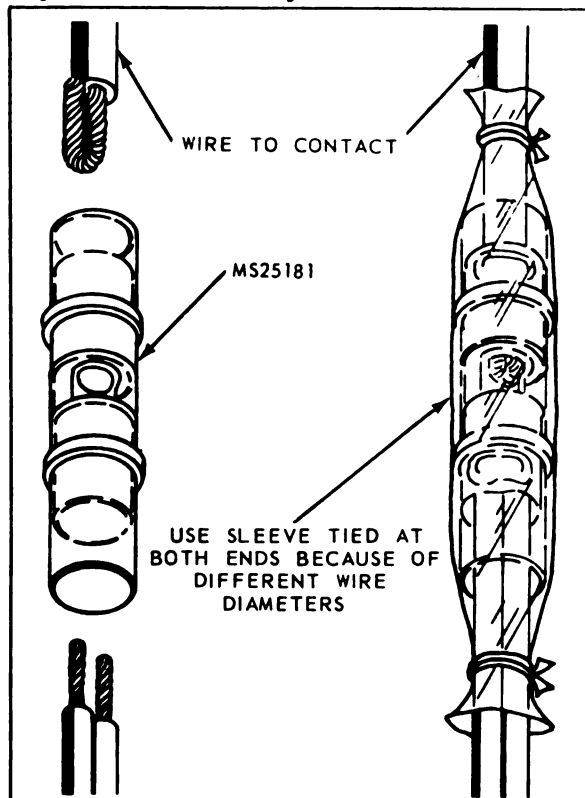

Figure 3-81. Permanent Splice for Terminating Two Wires at One Contact
b. If both wires cannot fit into contact solder cup, use permanent splice to join both wires to a third wire which can fit into solder or crimp cup. See section V, paragraph 5-67 for splicing procedure and figure 3-81 for illustration of this connection.